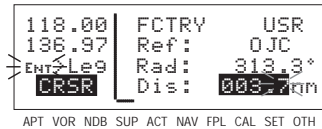

Figure 4-94
11. Use the right inner and outer knobs to select the desired distance from the reference waypoint (figure 4-94).